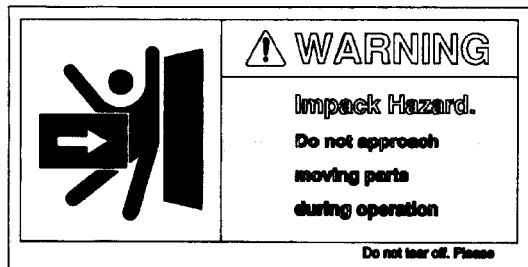

Fig 3.7.2
2. Be aware of hand and fingers. While the work table is moving (Fig 3.7.2). Located in position “B”.